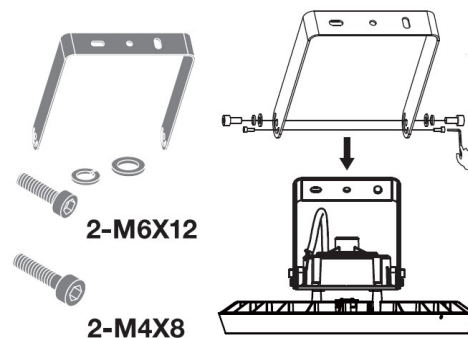

Fig 1.
2. Fix directly to the allocated hole positions on the transformer as shown below (fig 1.) using the allen key screws and washers provided.